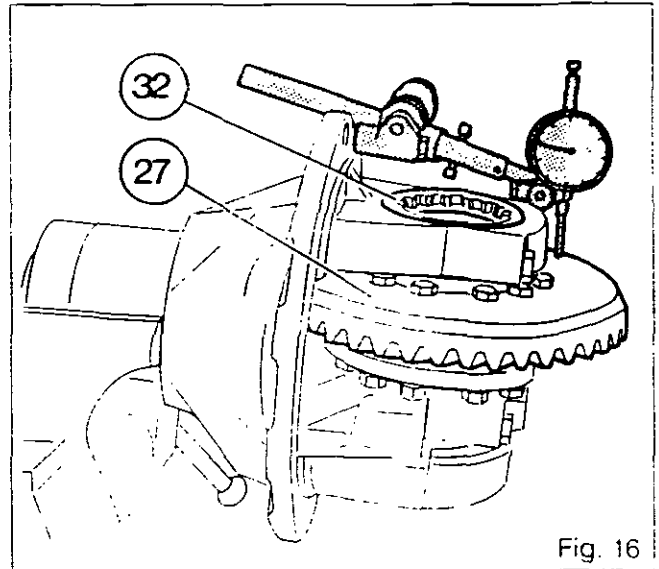

Fig. 16
77. Put the housing in a horizontal position in a soft-jawed vice, the crown uppermost (Fig. 16).
78. Put a dial gauge in place. Tighten the nut **(32)** (Fig. 16) and turn the crownwheel a few times to seat the bearing cones properly in the cups. Tighten the nut again to eliminate the axial play.